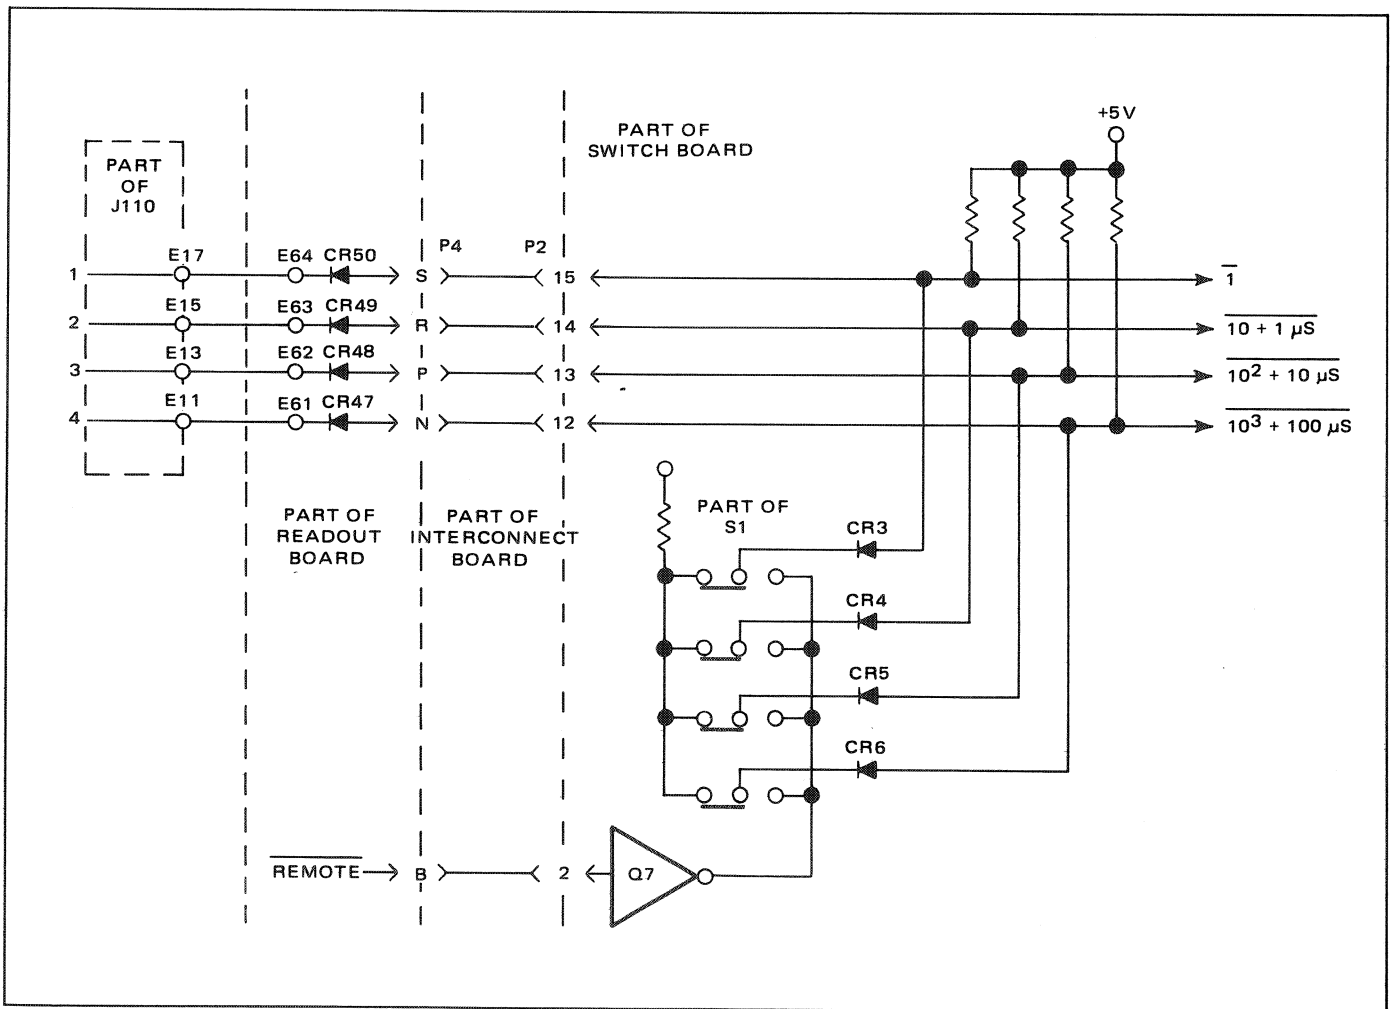

Figure 3.5 - Remote Multiplier/Time Base Select
3.22 Shown in figure 3.5 is a portion of the remote and local control of the multiplier/time base. To prevent front